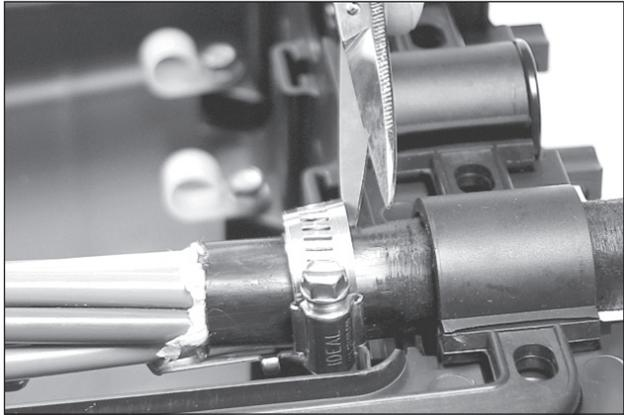

Figure 6
- 3.5 Place retention clamp into place in the closure and mark location of gasket edges on cable. This will be the area of the tape collar, as shown in Figure 6.